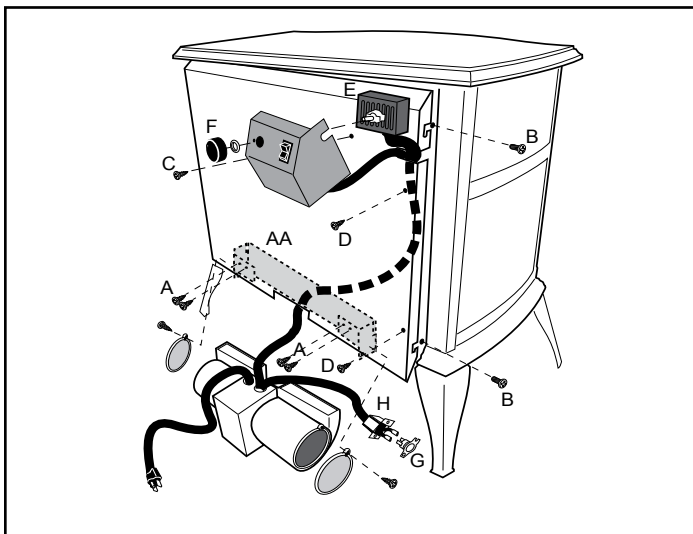

Figure 28 - Open the rear shroud and install fan control switch.
These directions are oriented facing the rear of the stove. Position the fan under the rear shroud as shown in Figure 28.
1. Open the left side of rear shroud. (Figure 28)
- Remove the round head phillips screws (B) that secure the shroud to the side of the stove.
- Remove the sheet metal screw (C) that fastens the switchbox to the rear shroud.
- Remove the two (2) sheet metal screws (D) that secure the inner and outer shroud together. Let the switch box and wiring hang loosely.
2. Install the control switch. (Figure 28)
- Run the control switch (E) and wire up along the side between the inner and outer shrouds and through the slot at the side.
- Attach the switch to the switch box with the retaining nut and control knob (F).
- Secure the switch box assembly to the rear shroud with the single sheet metal screw (C).
- Reinstall and tighten the two (2) sheet metal screws, ('D', Figure 28), that secure the inner and outer shrouds together.
- Secure the upper corner of the shroud and switch box to the side of the stove using a 1/4 - 20 x 1/2" round head phillips screw, previously removed. ('B', Figure 28)